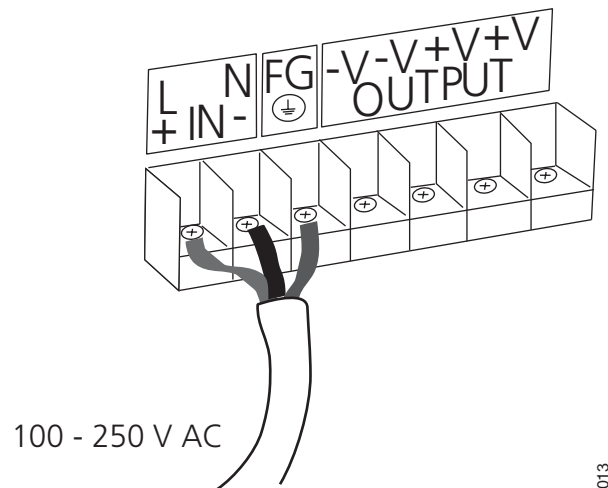

Figure 15. The mains power supply connection.
- 4 Connect the mains power supply cable onto the indicated positions on the connector, see figure 15.